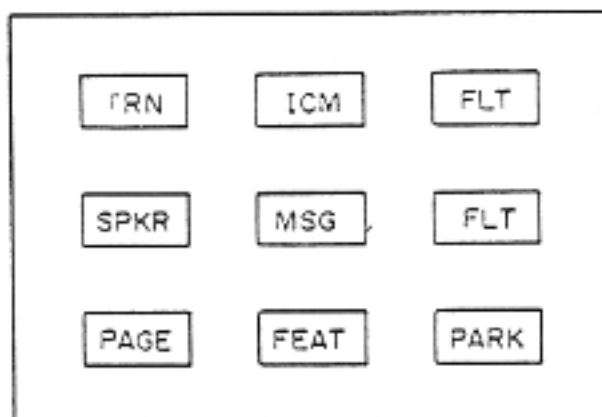

Figure 3.10.6.2.(3)E VP Default Key Assignment
- When calculator function is used, attach the marks on operation keys as shown in Figure 3.10.6.2.(3)F.